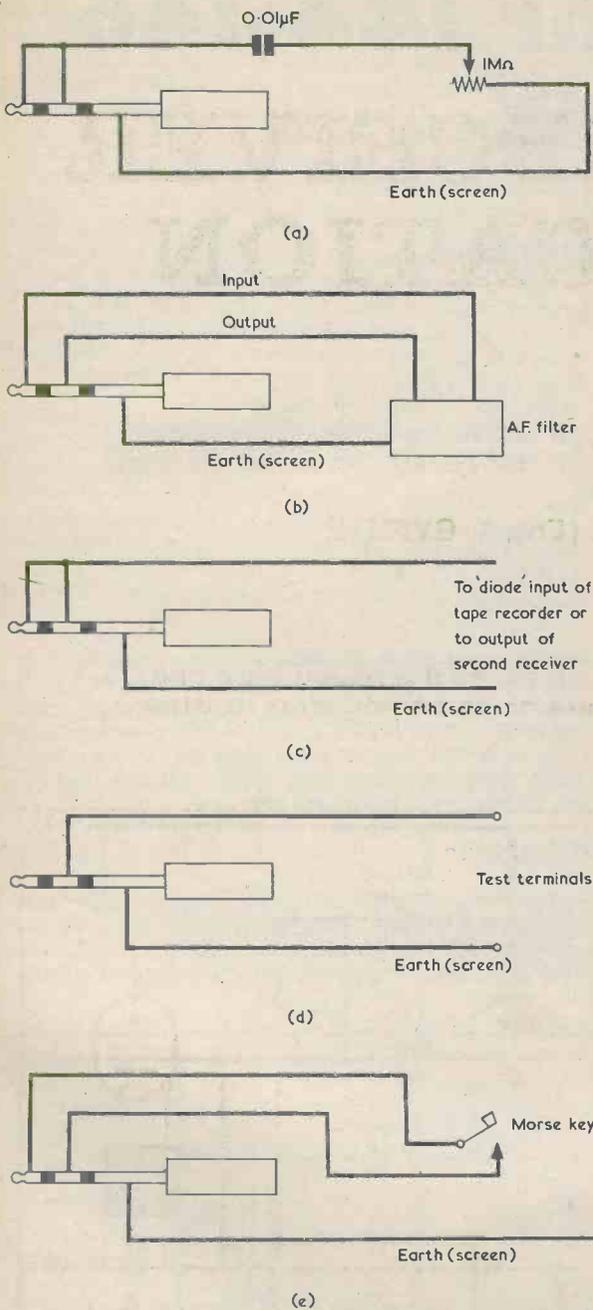

Fig. 3 (a) to (e). Illustrating the facilities offered by the modification. These are all described in the text
L3, R2 and C6 are mounted as a sub-assembly. First, bend L3 lead-outs in the manner illustrated in Fig. 3(a), and then solder R2 across these lead-outs as shown. Next solder C6 to the choke lead-outs, as illustrated in Figs. 3(a) and (b). Then insert the choke lead-outs into holes E6 and A6 and solder the assembly to the board. C6 is on the side of the choke that is remote from C1. Ensure that the lead-out at hole E6 does not touch the can of TR1.
Fig. 3 (a). Choke L3, R2 and C6 form a sub-assembly which is made up as shown here. After the sub-assembly has been completed, the choke leads are soldered to the board
A number of useful external units can now be plugged into the receiver, as illustrated in Figs. 3(a) to (e).
1. A simple top-cut tone control, as in Fig. 3(a).
2. An a.f. filter, either fixed or adjustable, as in Fig. 3(b).
3. The a.f. output at the jack socket can be applied to a tape recorder, whilst still allowing use of the receiver loudspeaker for monitoring. See Fig. 3(c). This will give better quality recording than is given by connecting the recorder to the receiver loudspeaker terminals.
4. The output of a second receiver monitoring another band or channel can be fed into the receiver for reproduction over the receiver loudspeaker. Fig. 3(c) applies here as well.
6. An a.f. amplifier feeding a loudspeaker is available for bench experiments, the testing of gramophone pick-ups or microphones, and for a.f. probing. In the last case a  $0.01\mu\text{F}$  blocking capacitor should be inserted in the non-earthly test lead. See Fig. 3(d).
7. A morse key for c.w. practice can be plugged in, as in Fig. 3(e). The receiver b.f.o. should be turned on for this application, as with item 5.
Both the outputs from the r.f. stage and the oscillator are fed to the mixer in the manner shown in Fig. 3. The pairs A and B, and C and D, each consist of parallel wires about  $\frac{1}{8}$  in to  $\frac{3}{8}$  in. apart, and each having a run of about  $2\frac{1}{2}$  in. They are earthed to the braiding of a piece of coaxial cable about  $\frac{3}{4}$  in. long, which takes their common connection up to the base of the mixer transistor, which is mounted under the i.f. chassis. The short length of coaxial cable provides screening and improves stability.
Fig. 3. Practical detail illustrating the manner in which the r.f. amplifier and oscillator are coupled to the mixer transistor in the i.f. section of the receiver